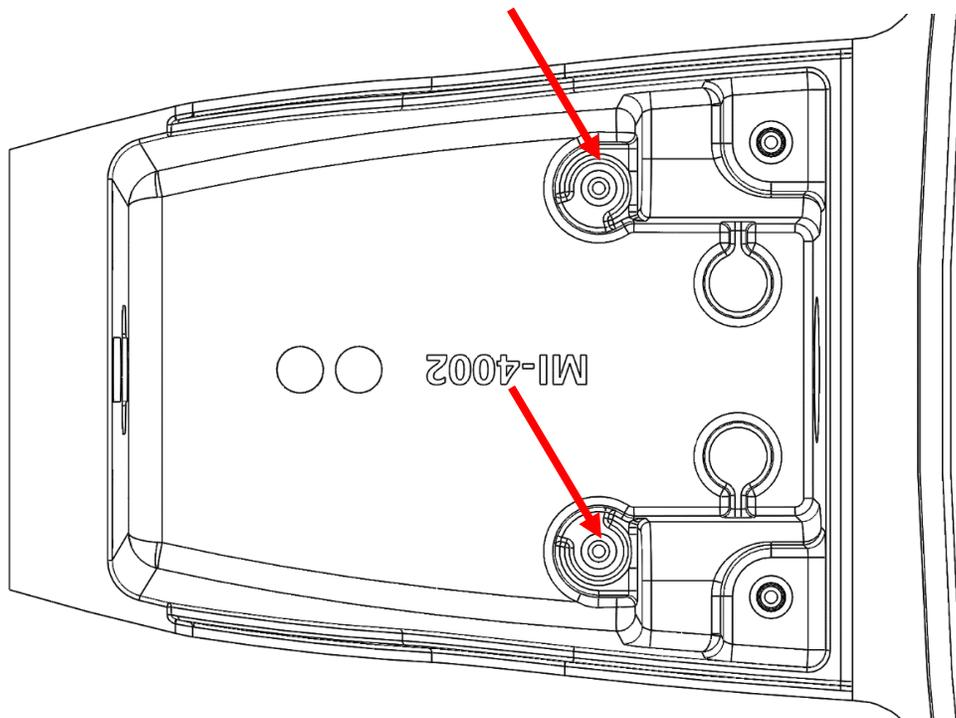

Figure 5 – RSX arm grounding bosses
Step 4: If attached, remove the cover from the arm. Using the green ground screw, connect the eyeleted ground wire included with the repair kit to the unused boss on the inside of the arm (see figure 5). One of the two bosses should already be in use to connect the ground tether from the arm to the cover. Do not remove the ground tether. Leave the arm cover disconnected, as it will need to be removed for installation to the pole.